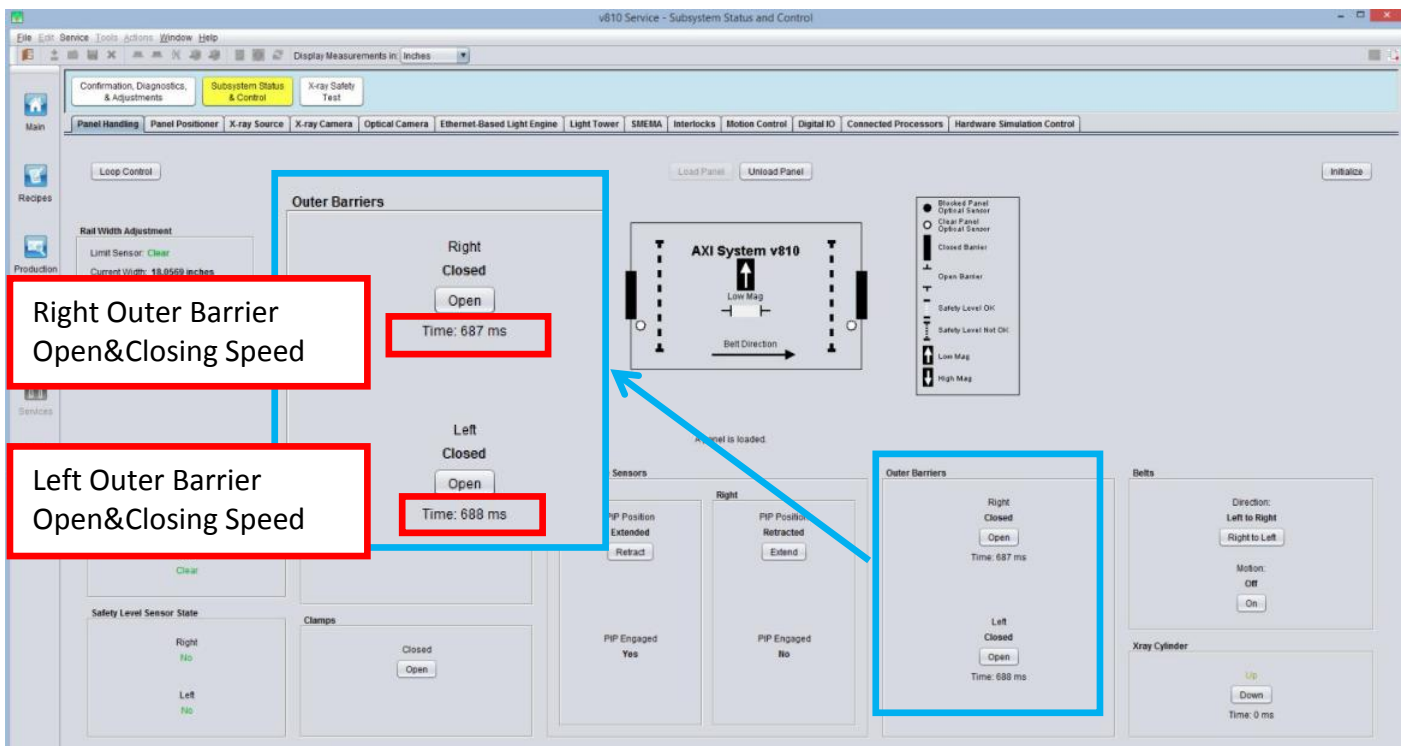

Figure 29
37. Open & Close particular Outer barrier .Record down Opening & Closing duration as below Figure 29.